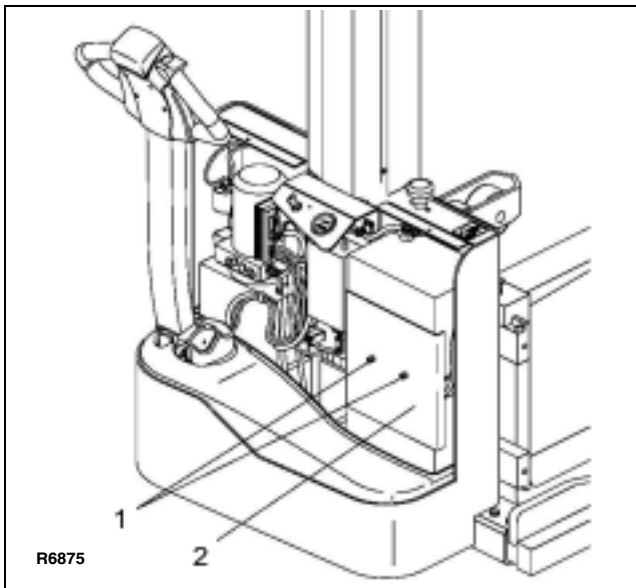

Figure 3-3 Battery Charging
3. Remove two screw (1, Figure 3-3) and remove bracket (2).